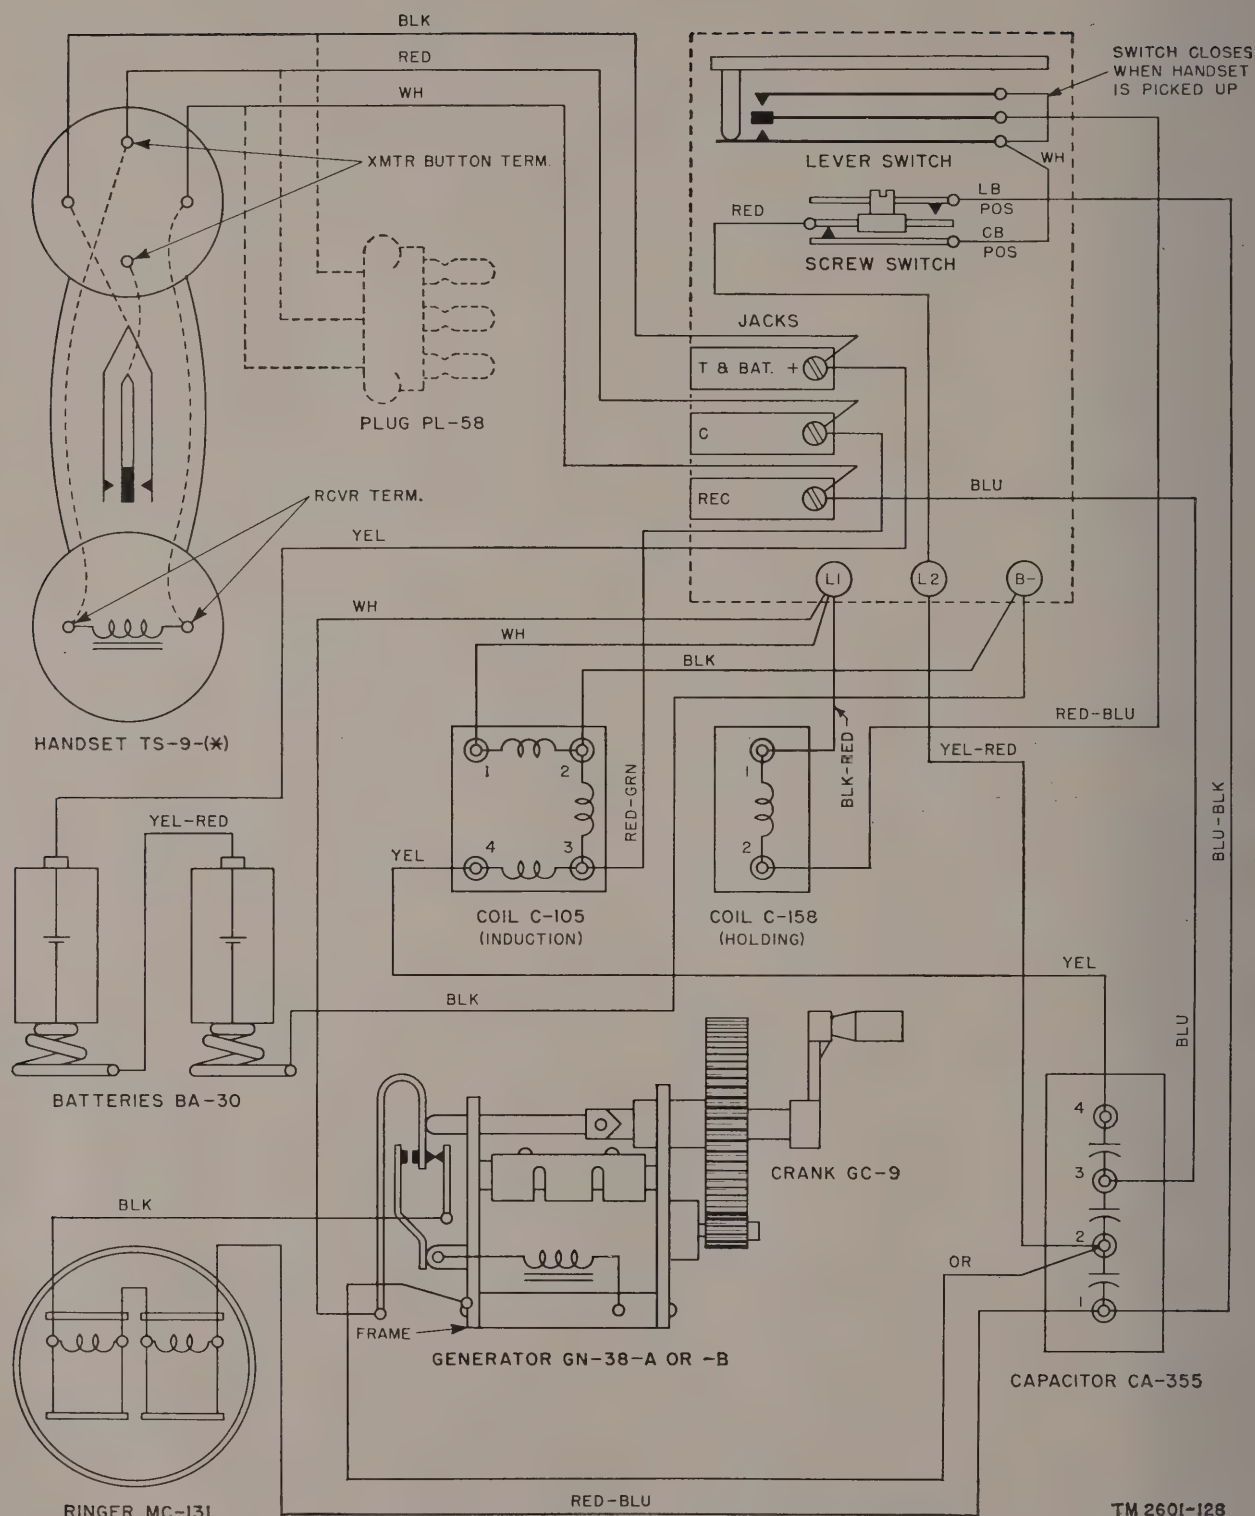

Figure 154. Telephone EE-8-B, wiring diagram.
a. TELEPHONE EE-8. This unit (fig. 27) is used for talking between the carrier terminal and the radio terminal over the simplex circuit on the spiral-four cable. A wiring diagram of the B model is shown in figure 154. Telephone EE-8-(*) is covered in paragraph 31*d*.